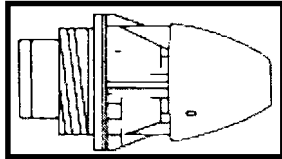

Figure 7-18. M745 PD fuze.
d. M745 PD Fuze (Figure 7-18).
- (1) Functions: Impact.
- (2) Settings: None.
(3) Remarks: The fuze functions on impact with superquick action only. The markings (PRX, NSB, IIMP, and DLY) are dummy settings. Rotation of the fuze head does not alter the function mode.